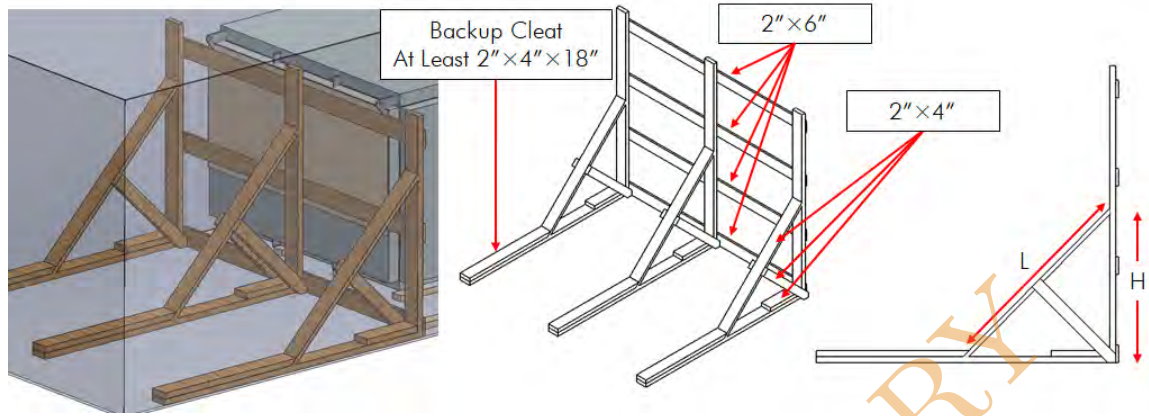

Figure 4.9: Lengthwise reinforcement technique
4. **Lengthwise reinforcement:** In addition to floor blocking, the transport operator must reinforce the lengthwise blocking of the ecoCUBE[®] through diagonal bracing to the container floor, as seen in Figure 4.9.